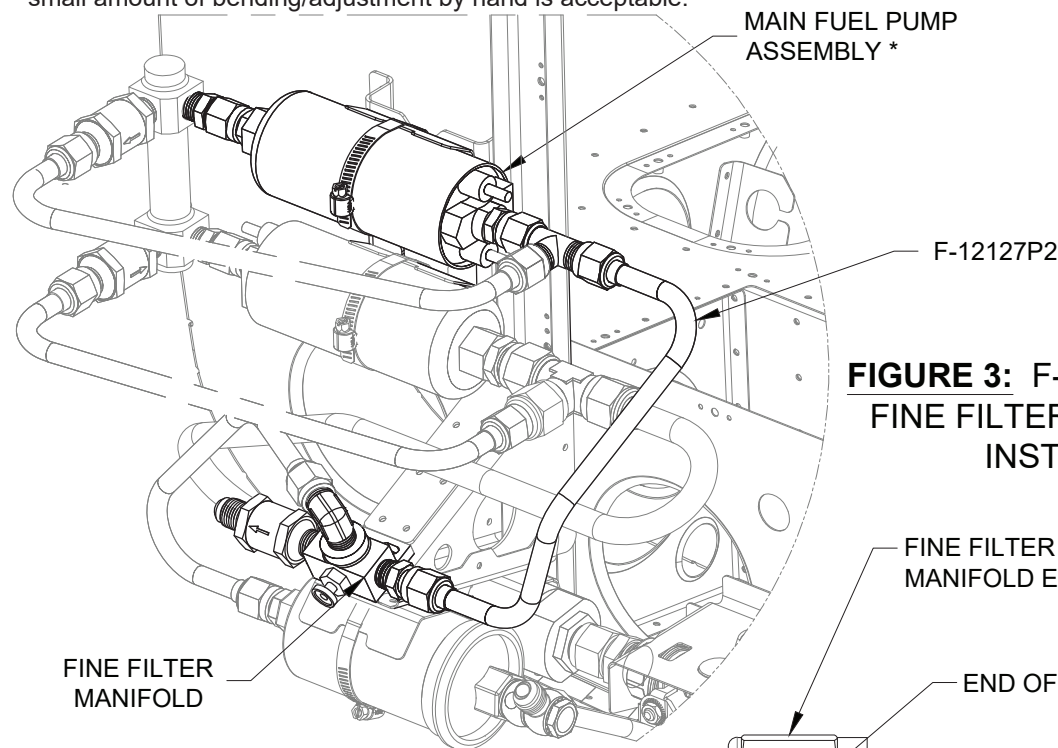

FIGURE 3: F-12127P2 PUMP TO FINE FILTER MANIFOLD LINE INSTALLATION
Step 4: Attach the fuel line to Main Fuel Pump Assembly* and the Fine Filter Manifold as shown in Figure 3. A small amount of bending/adjustment by hand is acceptable.